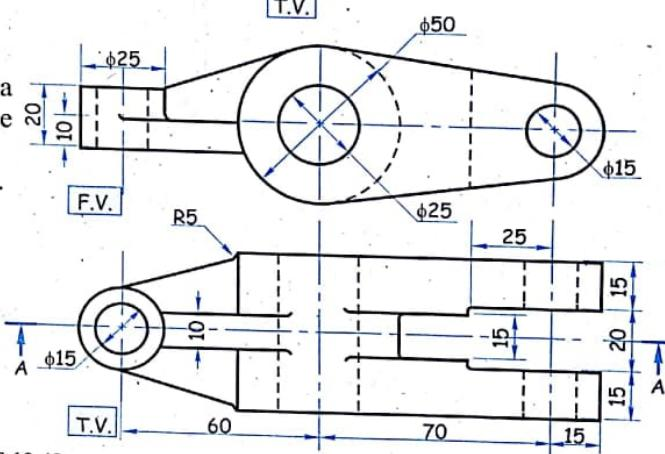

FIG 13.42
- ② Figure 13.42 shows elevation and plan of a machine part. Draw to full scale the following views.